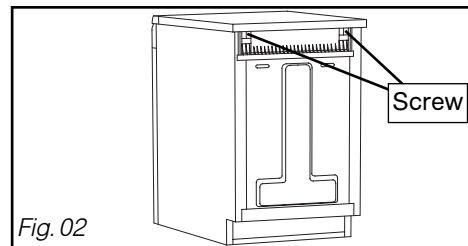

Fig. 02
– Remove the top of the appliance by unscrewing the two screws under the edge of the top (Fig. 02).